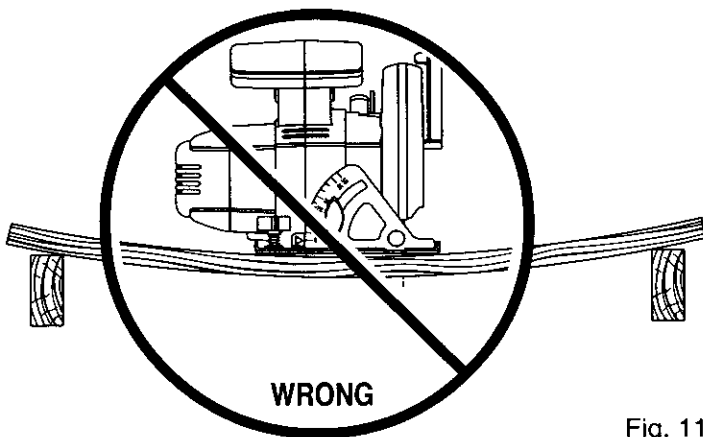

Fig. 11
- Incorrectly supporting workpiece. See Figure 11.
- To avoid pinching the blade, support the workpiece properly before beginning a cut. The right and wrong ways to support large pieces of work are shown in figures 11 and 13.